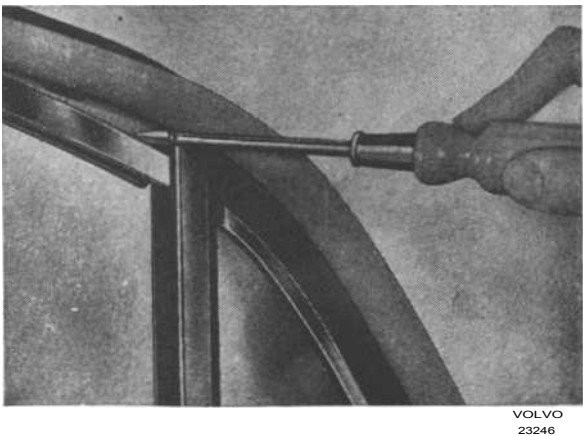

Fig. 33. Removing upper guide strip
4. Remove the upper guide strip with a screwdriver as shown in Fig. 33.